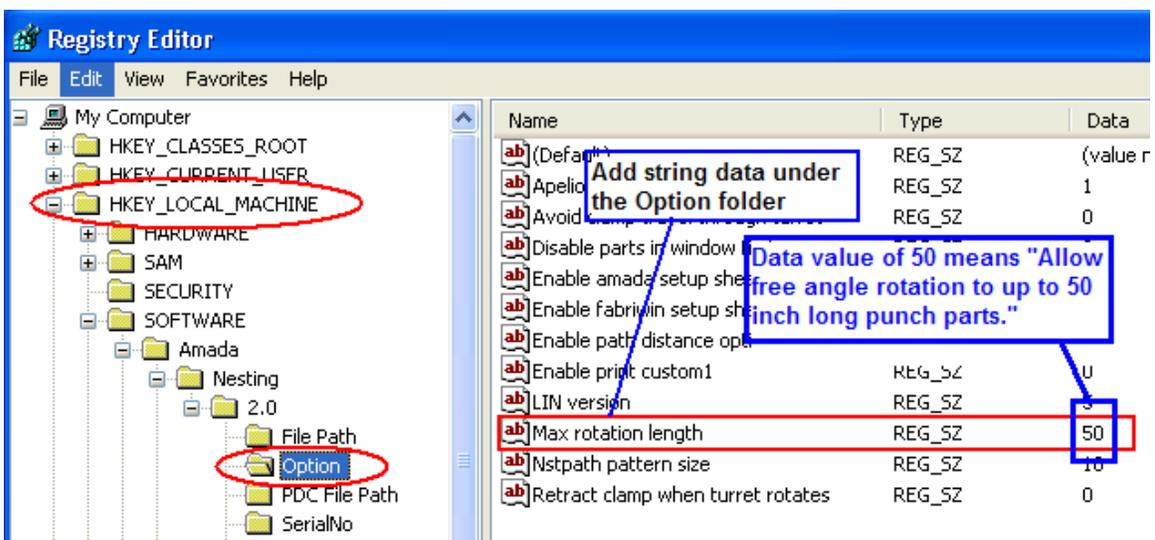

Figure 2.
- 19) Allows free angle part rotation to long punch part (longer than 42 inches) in Layout Editor. User needs to add registry string data of "Max rotation length" under Hkey Local Machine => Software => Amada => Nesting => Option folder. (See Figure 2).